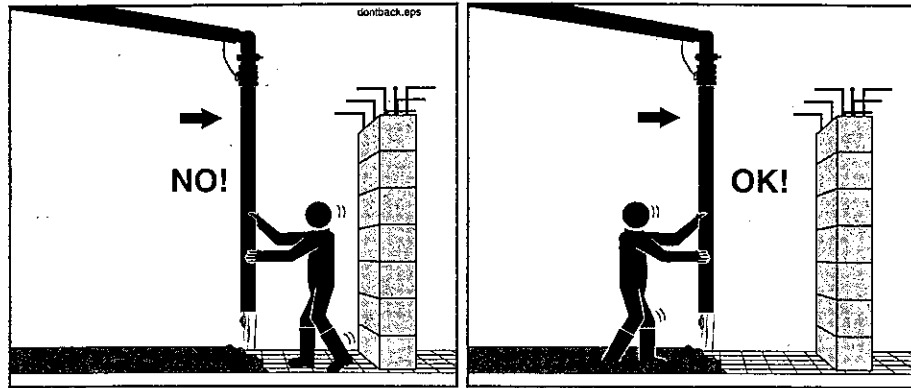

Figure 5 - addendum
- WARNING!** The hose man should not walk backwards (Figure 5 - addendum). Walking forward will allow him to see obstacles and avoid tripping.
- WARNING!** The hose man should never position himself between the boom or boom hose and any fixed object like a wall or column (Figure 5 - addendum).